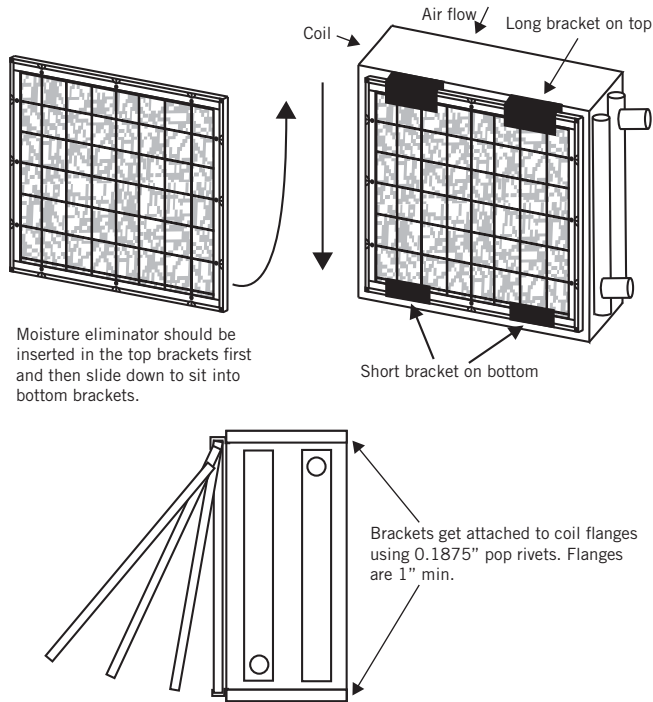

Figure 3. Mist Eliminator Installation
1. Carefully remove the coil from the shipping package to avoid damage to the finned surface area. Damaged fins can be straightened using an appropriate fin comb. If a mist eliminator was purchased, remove it before installation. See Figure 3 on Page 4.
- If a mist eliminator was purchased with the coil installed, place the mist eliminator into its brackets. Make sure the mesh is aligned with the coil finned area (Figure 3 Moisture Eliminator).